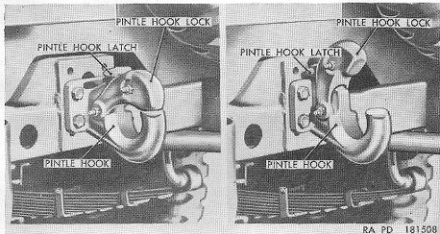

Figure 10. Towing pintle.
- (b) When towing a vehicle with faulty brakes, do not use a tow line or cable. A tow bar must be used to prevent the possibility of the towed vehicle running into, or overrunning the towing vehicle. When towing, always use the towing pintle (fig. 10).
- (3) *Use of towing pintle.* The towing pintle (fig. 10) is located at the rear center of the vehicle. It is used as a coupling device for towing a trailer or a disabled vehicle. To open the pintle, release the pintle hook latch and raise the pintle hook lock. To close the pintle, lower the lock.